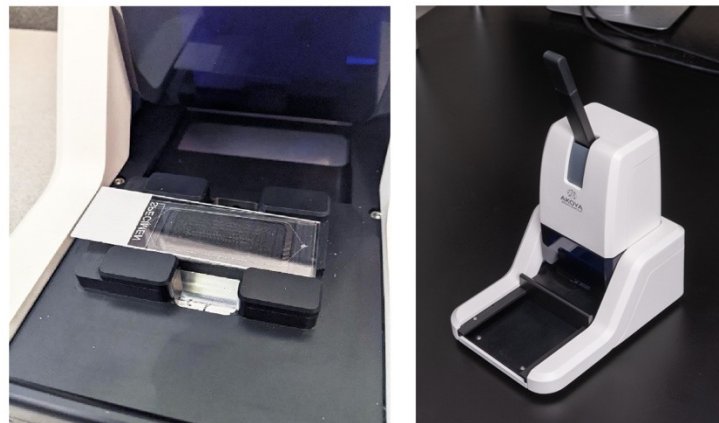

Figure 3.16. Flow Cell and Slide ready for assembly (left). The Flow Cell in the Assembly Device with the drawer in the close/assembly position (right).
18. Gently slide the drawer all the way into the close/assembly position. (See Figure 3.16, right.)